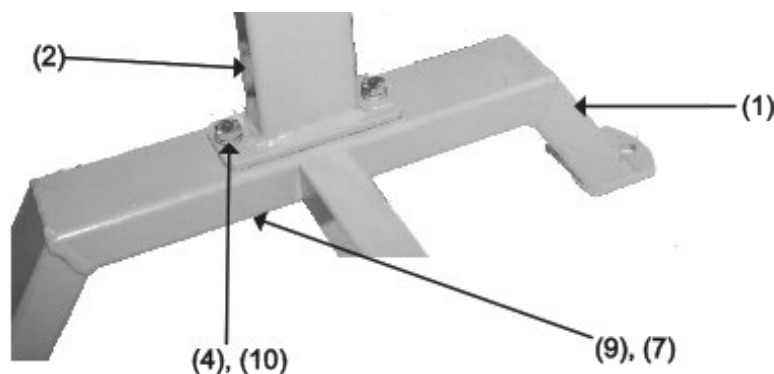

Figure 1
1. Connect Main Support (3) to Table Support (2). Insert two Bolts (6) with Washers (10) down through the Table Support (2) and Main Support (3). Slide on two more Washers (10), Spring Washers (9) and thread on the Nuts (7).
2. Attach Table Support (2) to Leg (1). Insert two Bolts (4) with Washers (10) down through the Table Support (2) and down through the Leg (1). Slide on two more Washers (10), Spring Washers (9) and thread on the Nuts (7). See Figure 1 for details.